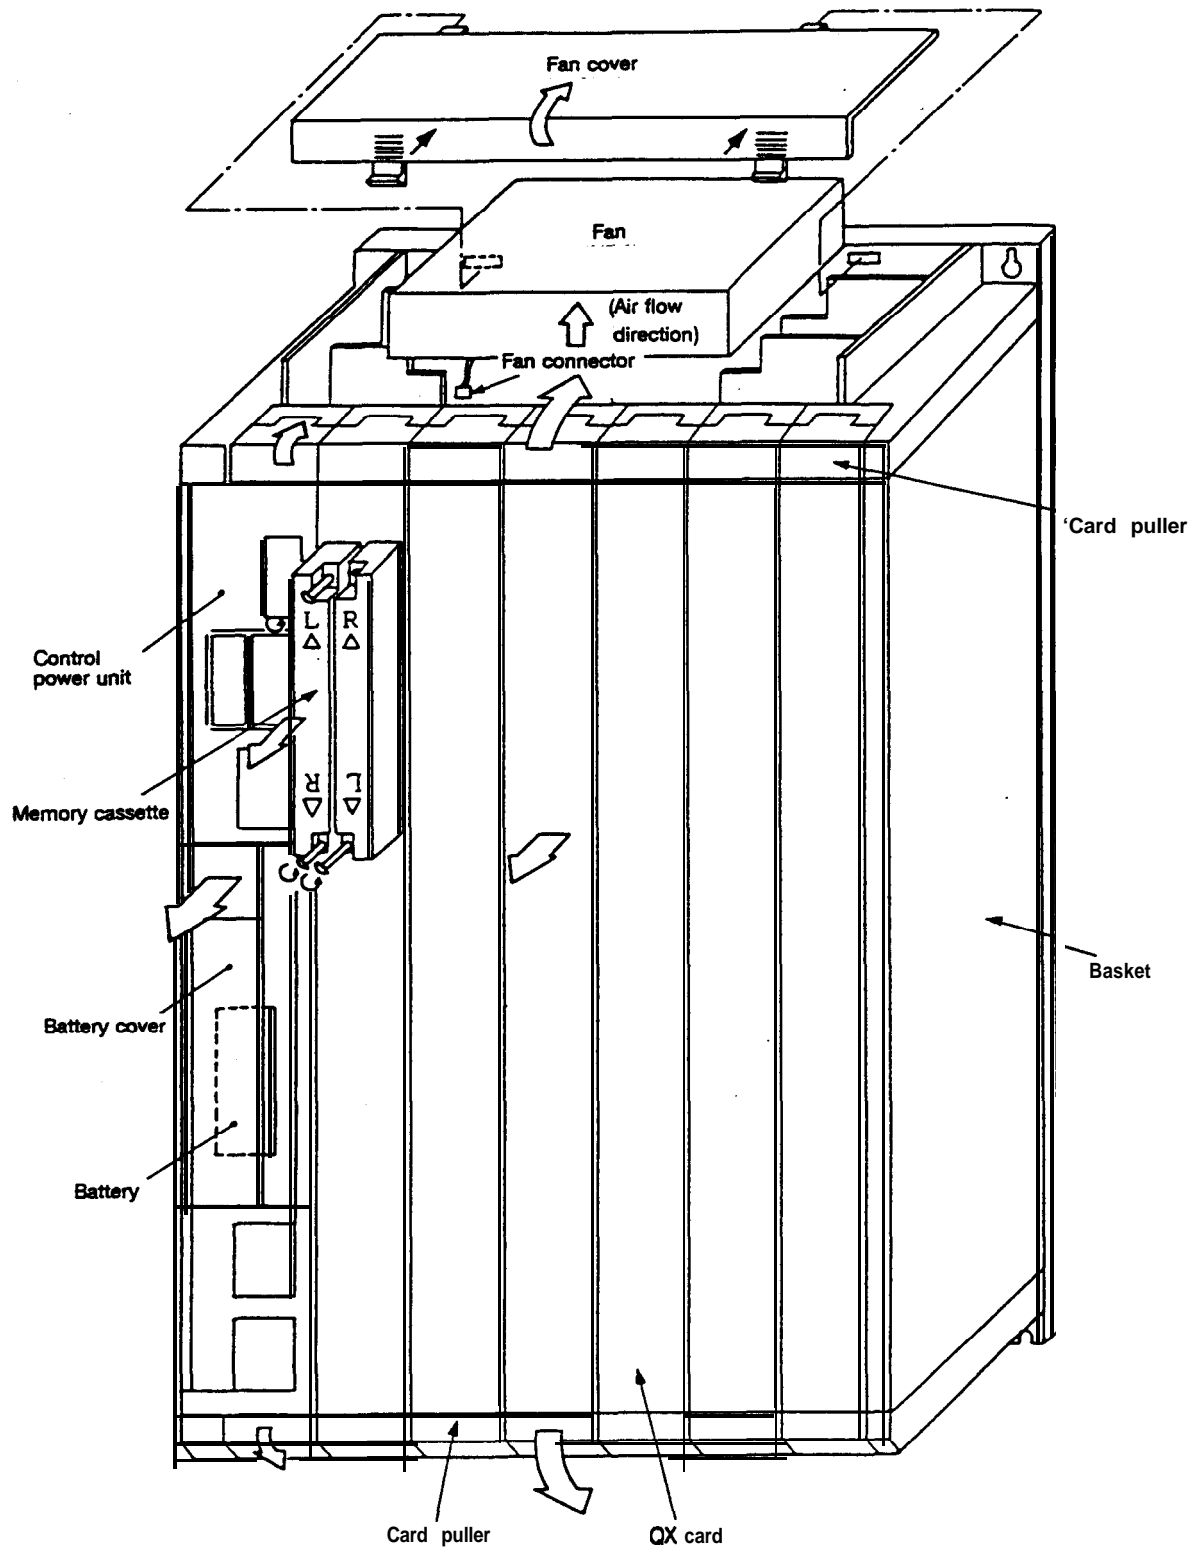

Fig. 3.6 Control unit replacement procedure drawing
The procedure for replacing the control unit is shown in Fig. 3.6.
(5) For the following type of connector, pull out the connector while pressing it in the direction of the arrows.
- ② When the upper and lower card pullers are opened into the direction of the arrow shown in Fig. 3.6, the QX card will protrude slightly, and can be pulled out.
- ③ When mounting a new QX card, slide the card into the back along the guide groove on the basket. The card name is indicated on the basket, so make sure that the card is inserted into the correct slot.
- ④ Close the card lock.